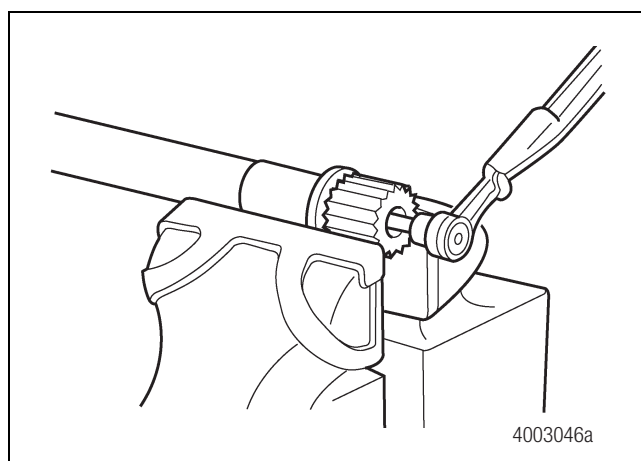
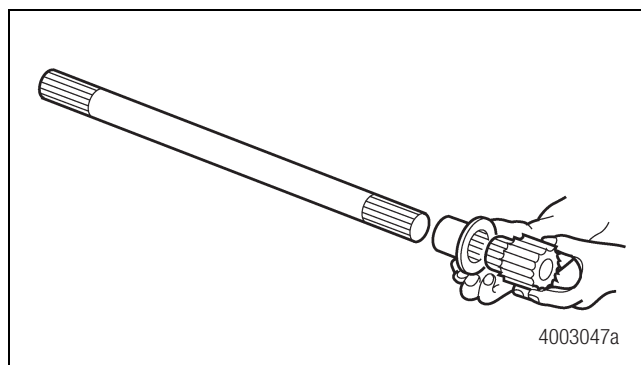

Figure 3.10
Figure 3.11
- B. Remove the screw that attaches the sun gear to the axle shaft. Separate the sun gear and coupling from the end of the shaft. Figure 3.10 and Figure 3.11.